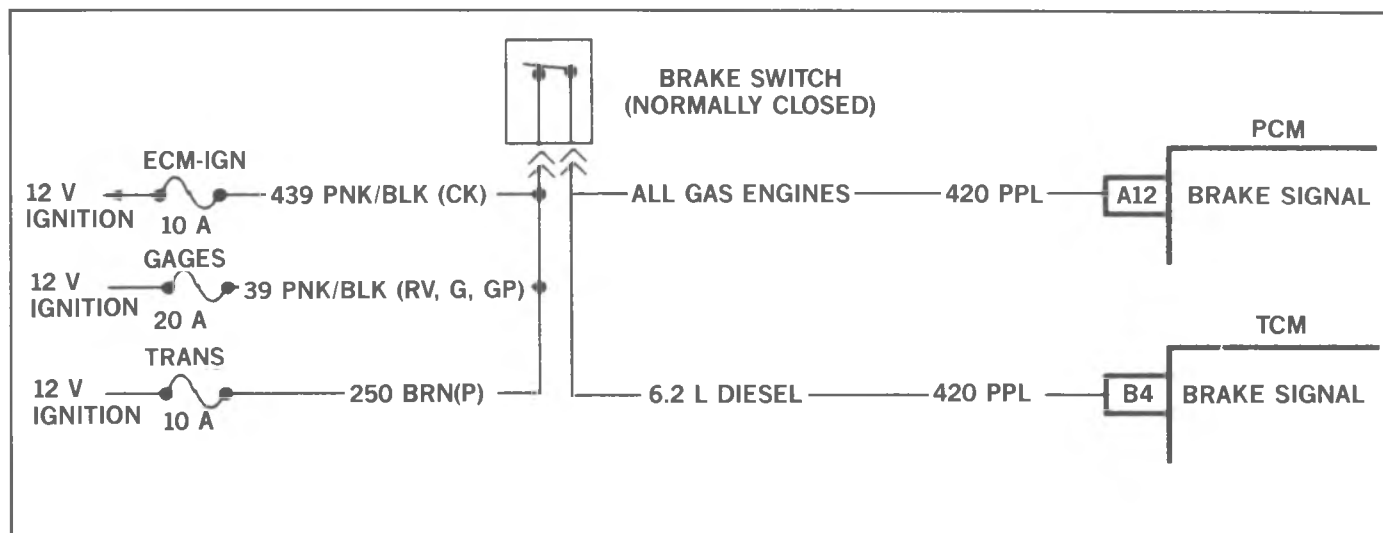

Figure 19. Brake Switch Schematic Diagram
The Brake Switch is operated by brake pedal travel. The switch is normally closed when the brake is released. This applies battery voltage to the PCM/TCM signal line (Figure 19). When brakes are applied the PCM/TCM receives a Zero (0) volt signal on the signal line which causes TCC to be released. Brake switch input is used for line pressure and TCC control.